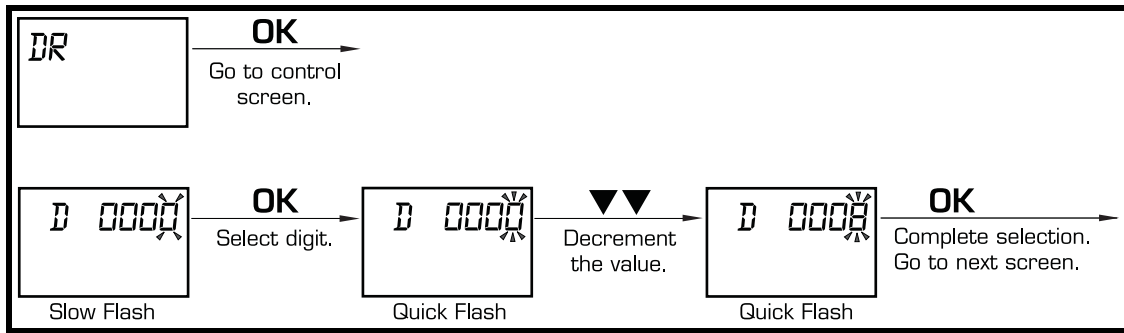

Figure 8. Selecting Off Time
2. Follow the steps in Figure 8 to select the off time (1–10) to be changed.